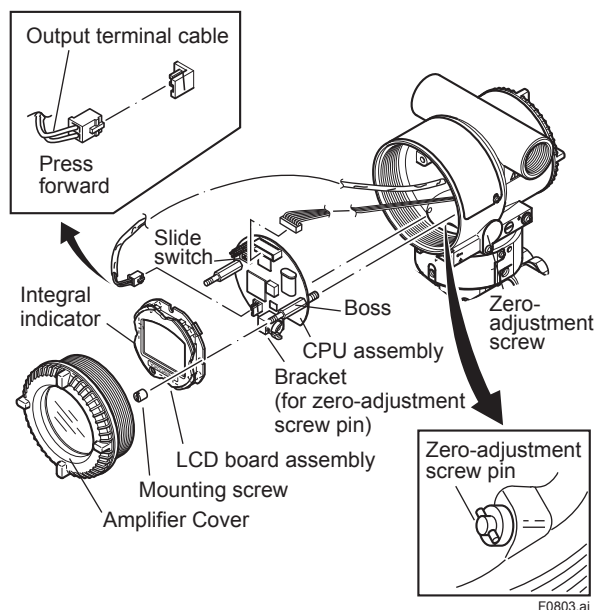

Figure 8.3 Removing and Attaching LCD Board Assembly and CPU Assembly
This subsection describes the procedure for replacing an integral indicator. (See figure 8.3)
This subsection describes the procedure for replacing the CPU assembly. (See figure 8.3)
- 2) Turn the zero-adjustment screw to the position (where the screw head slot is horizontal) as shown in figure 8.3.